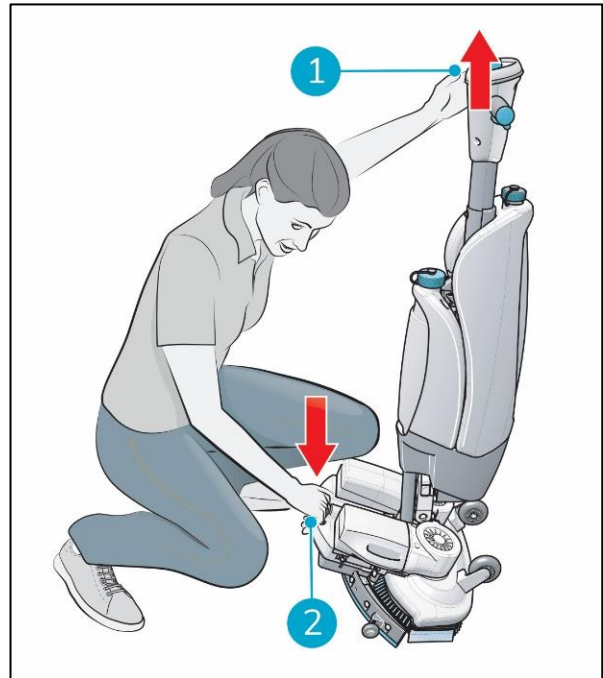

Figure 15
1. Crouch down while holding the scrub deck firmly with one hand (Figure 15, pos 2).
2. Push the handle forward with your other hand (Figure 15, pos 1).